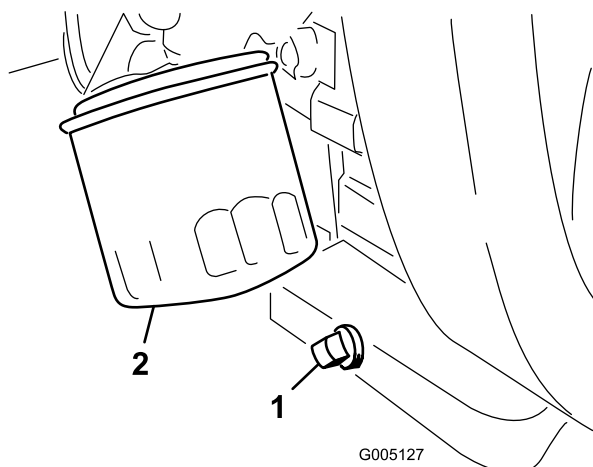

Figure 43
1. Remove the drain plug (Figure 43) and let oil flow into a drain pan. When the oil stops, install the drain plug.
2. Remove the oil filter (Figure 43). Apply a light coat of clean oil to the new filter gasket.